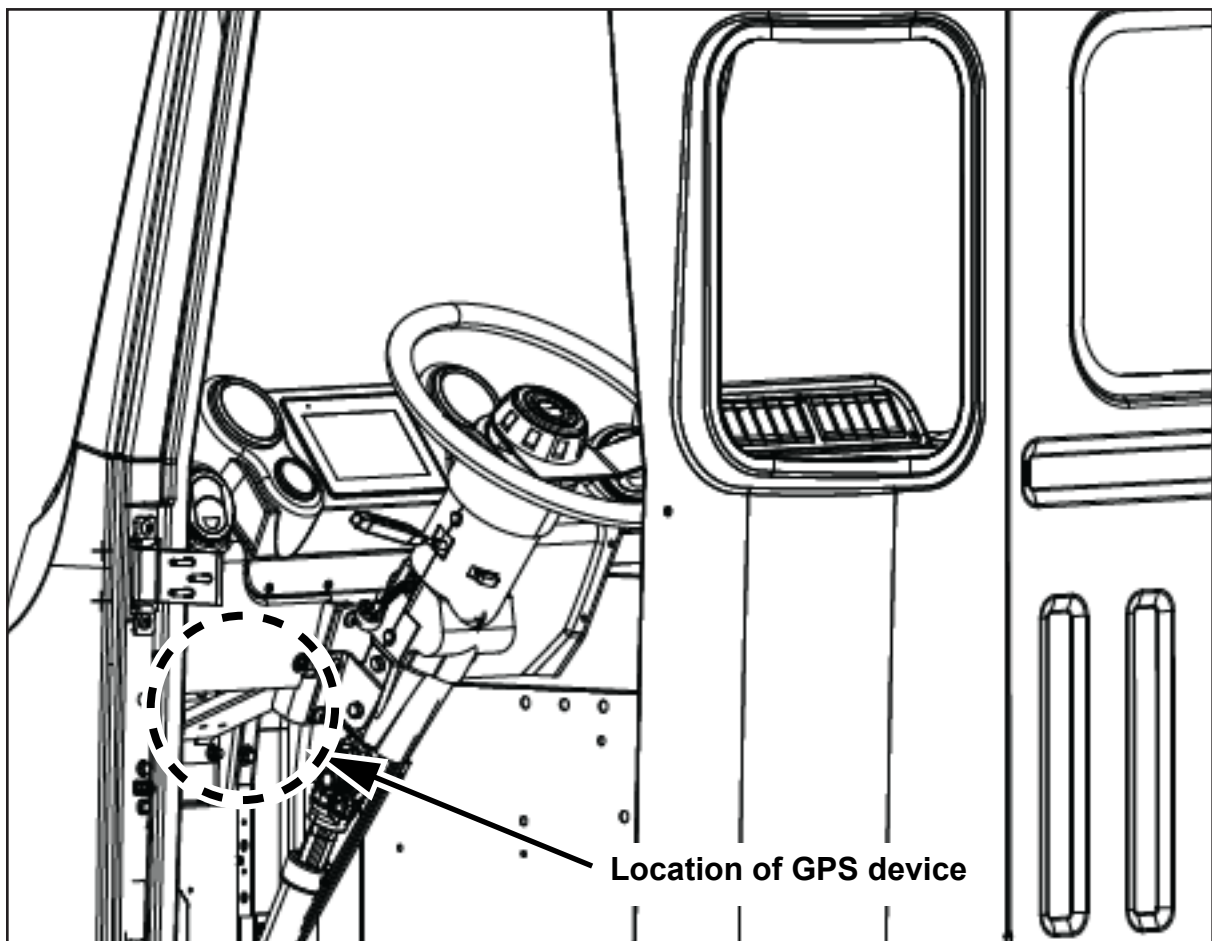

Figure 1
3. Locate the GPS device under the left side of the dash near the steering column (see Figure 1).